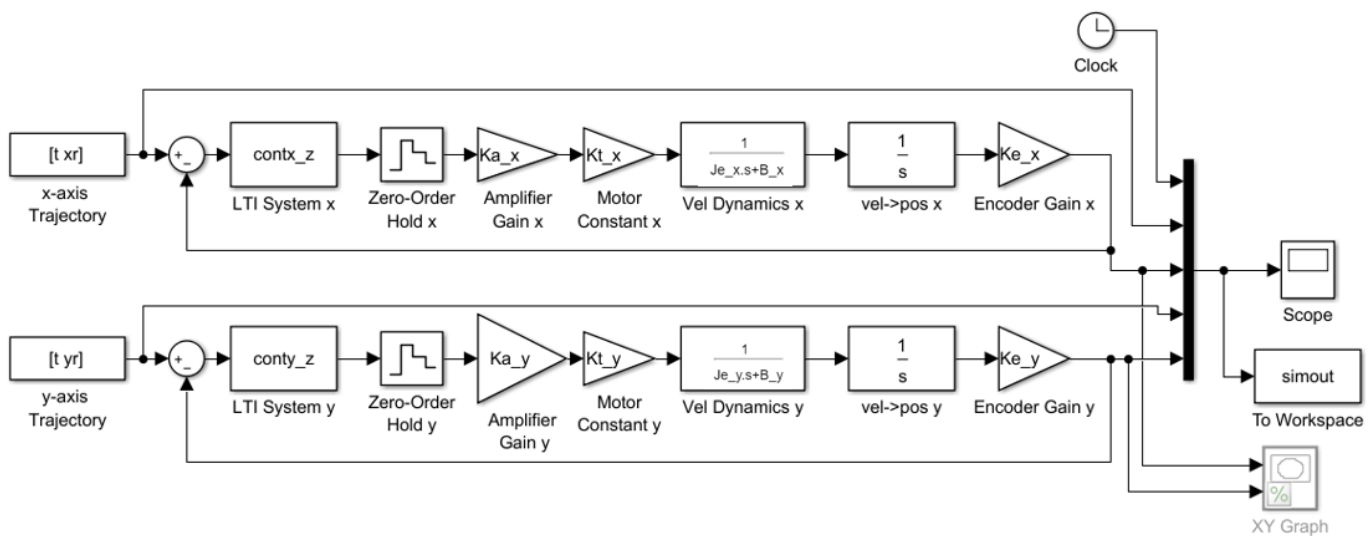

Figure 3: Simulink Model for Trajectory Simulation
**C.1.** Implement the discrete position controller cascaded with the continuous plant using a zero-order hold block in MATLAB/Simulink environment as shown in Figure 3. Apply the generated reference trajectories in A.1 to the two-axis position control system. Verify that your trajectories and controllers result in stable contouring of the toolpath. Include the simulated path.